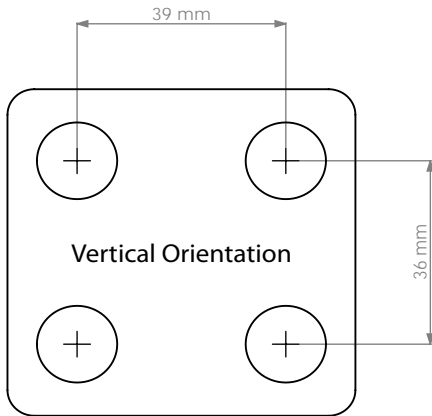

Figure 3.
4. The backing plates do not have uniform hole placement and vertical orientation needs to be determined. Refer to Figure 3 for the proper orientation of the backing plate.